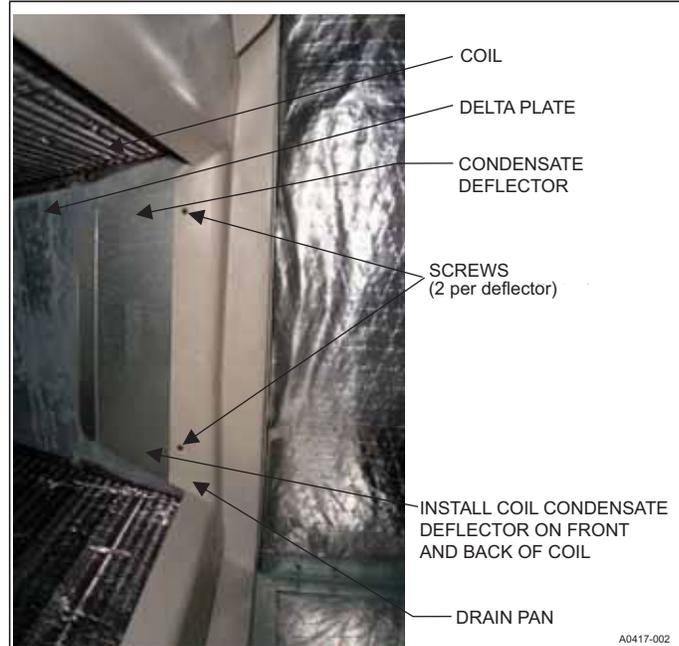

FIGURE 6: Coil Condensate Deflector Installation
- For horizontal right applications, install front and back coil condensate deflectors (condensate deflectors shipped as loose parts with the unit). Locate 4 screws securing coil delta plates to coil drain pan. Loosen the screws. Slide each coil condensate deflector between the drain pan and the coil delta plate. Tighten screws to securely anchor coil condensate deflectors. Refer to Figure 6.